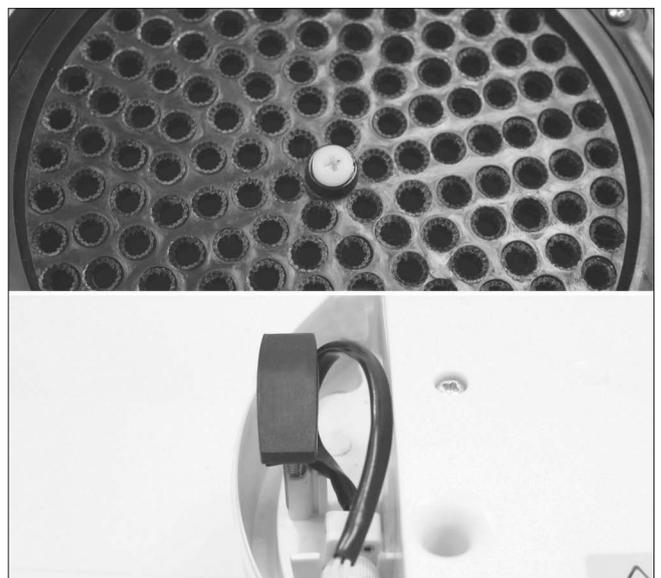

Fig.12B
- Ensure the plastic screw is fixed to the centre of the heat cell and the cell key is placed back in its holder (Fig.12B).